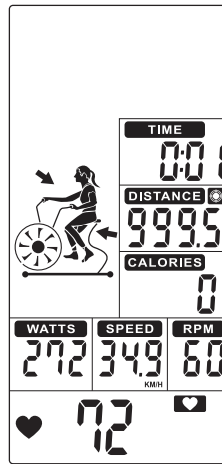

FIGURE 42
- The preset DISTANCE value counts down, TIME (DISPLAY 3), CALORIES (DISPLAY 5), WATTS (DISPLAY 6), SPEED (DISPLAY 2) and RPM (DISPLAY 1) start counting. (Figure 42)